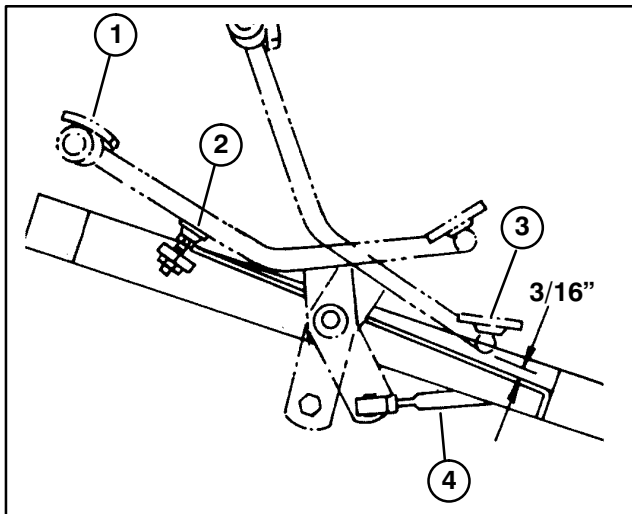

Figure 48
ADJUSTING TRACTION PEDAL (Fig. 48)
2. Check distance between bottom of pedal and footrest as shown in Fig. 48. Distance should be approximately 3/16". If distance is greater or less than 3/16" dimension, an adjustment to the traction control rod is required.